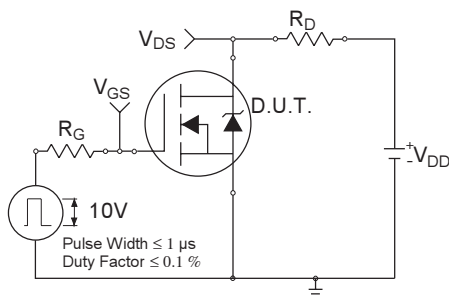

Fig 11a. Switching Time Test Circuit
| t_f | Fall Time | — | 5.5 | — | | $V_{GS} = 10V, \text{See Fig. 11a \& 11b } \text{④}$ |